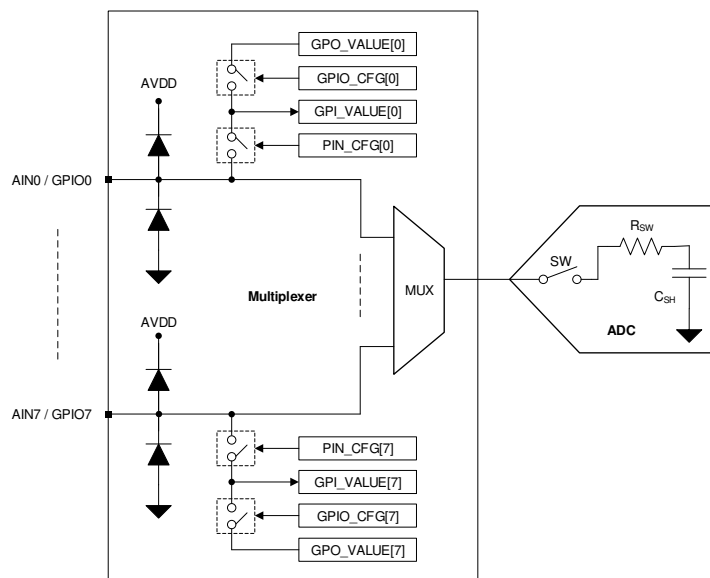

图 6-1. Analog Inputs, GPIOs, and ADC Connections
The eight channels of the multiplexer can be independently configured as ADC inputs or general-purpose inputs/outputs (GPIOs). As shown in 图 6-1, each input pin has ESD protection diodes to AVDD and GND. On power-up or after device reset, all eight channels of the multiplexer are configured as analog inputs.
图 6-1 shows an equivalent circuit for the pins configured as analog inputs. The ADC sampling switch is represented by an ideal switch (SW) in series with a resistor (R_{SW} , typically $150\ \Omega$) and a sampling capacitor (C_{SH} , typically $30\ \text{pF}$). During acquisition, the SW switch is closed to allow the signal on the selected analog input channel to charge the internal sampling capacitor. During conversion, the SW switch is opened to disconnect the analog input channel from the sampling capacitor.
To enable write access to the configuration registers for diagnostics, write 0x96 in the DIAGNOSTICS_KEY register. To enable bit-walk test mode, configure BITWALK_EN = 1b. In the bit-walk test mode (see 图 6-1), the sampling switch (SW) remains open and the test voltage is applied on the sampling capacitor (C_{SH}) during the acquisition phase of the ADC. In diagnostic mode, the conversion process of the ADC remains the same as normal device operation. The ADC starts the conversion phase on the rising edge of $\overline{CS}$ and outputs the code corresponding to the sampled test voltage. The output code of the ADC is expected to be proportional to the test voltage, as shown in 方程式 2, after adjusting for DC errors (such as INL, gain error, offset error, and thermal drift of offset and gain errors).